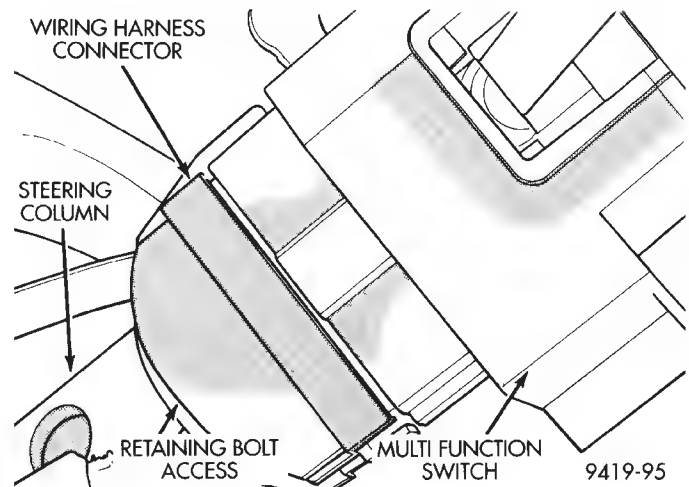

Fig. 15 Multi Function Switch Wiring Connection
(11) Loosen the panel bracket nuts/studs to allow the column to drop.
(12) Remove wiring harness connector (Fig. 15) from the multi function switch. **Note: Wiring harness connector is retained to multi function switch, using an attaching bolt with a 7mm hex head. access to bolt is through rear of wiring harness connector.**